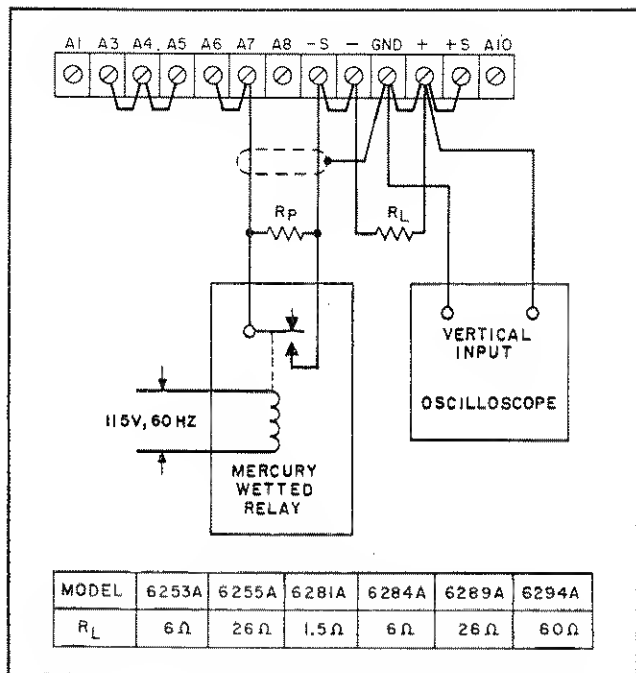

Figure 5-10. Constant Voltage Programming Speed, Test Setup
5-32 Programming Speed. This measurement is made by monitoring the output voltage with an oscilloscope while rapidly changing the remote programming resistance. For up-programming, the remote resistance is varied from zero ohms to the value that will produce maximum output voltage; and for down-programming, the remote resistance is varied from the value that will produce maximum output voltage to zero ohms. To check the up-programming speed, make the connections indicated in Figure 5-10; for down-programming, simply remove R_L.
1. Restrap the rear barrier strip as indicated in Figure 5-10. Note that the jumper between +S and A10 is removed. This disconnects the output capacitor C20 to increase the programming speed. A minimum amount of output capacitance (C19) is permanently wired to the output and should not be removed, because the supply could oscillate under certain load conditions. The programming speed increases by a factor of from 10 to 100 when the output capacitor C20 is removed.
2. Connect the relay, oscilloscope, and programming resistor R_p as illustrated in Figure 5-10. Select the value of the programming resistor that will produce maximum output voltage of the supply. This value is obtained by multiplying the programming coefficient (200 ohms/volt, 300 ohms/volt for Model 6294A) by the maximum rated output voltage of the supply.
4. The time (T) required for the output voltage to change from zero volts to maximum rated output or from maximum rated output to zero should be less than 10 milliseconds.